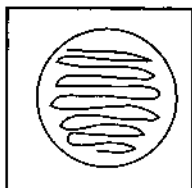

Figure 3:
13. Spread the cells with a sterile inoculating loop. (See Figures 3 & 4)